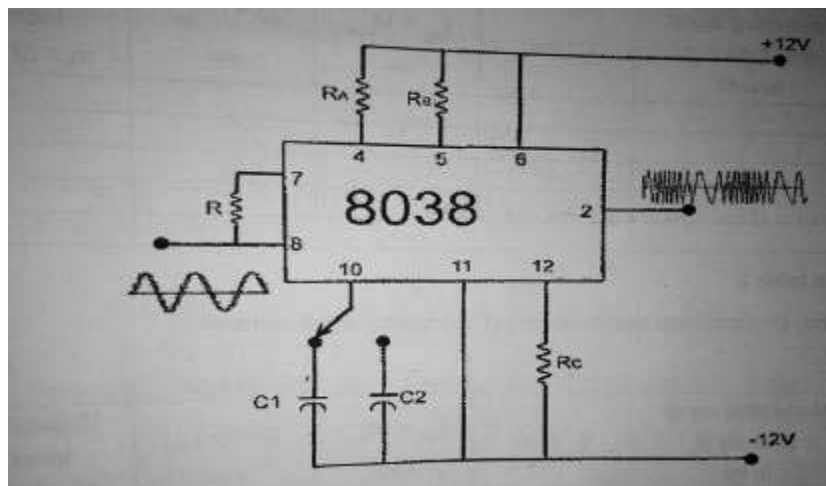
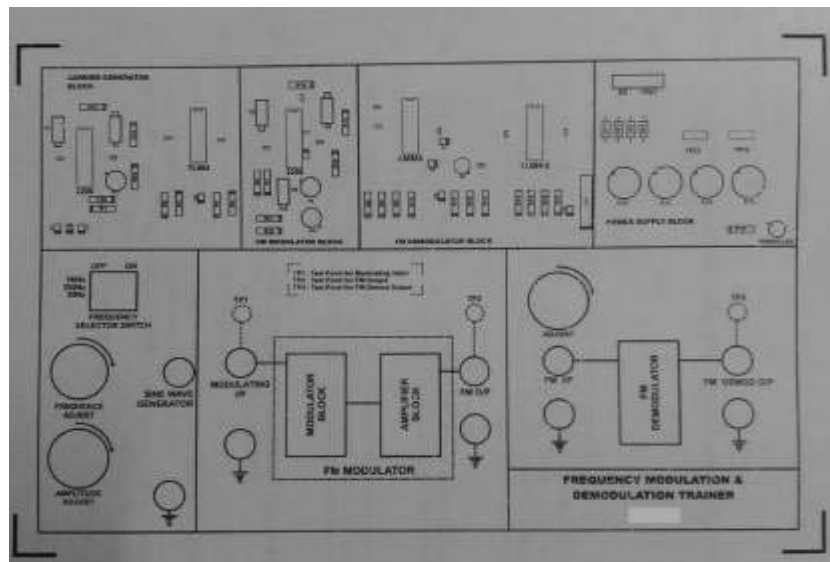
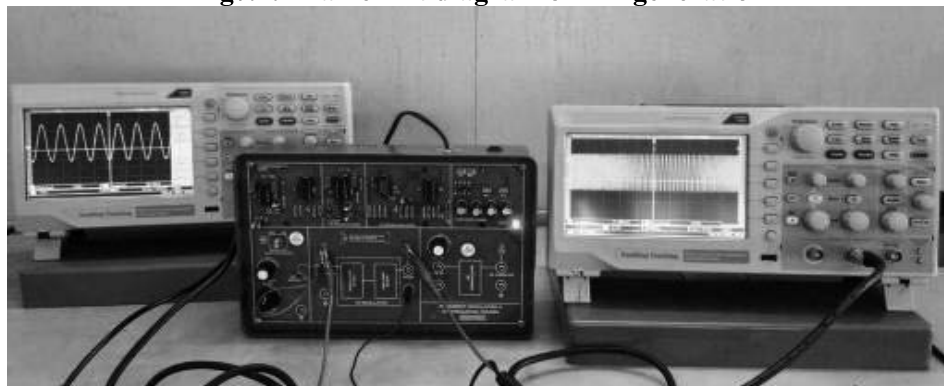
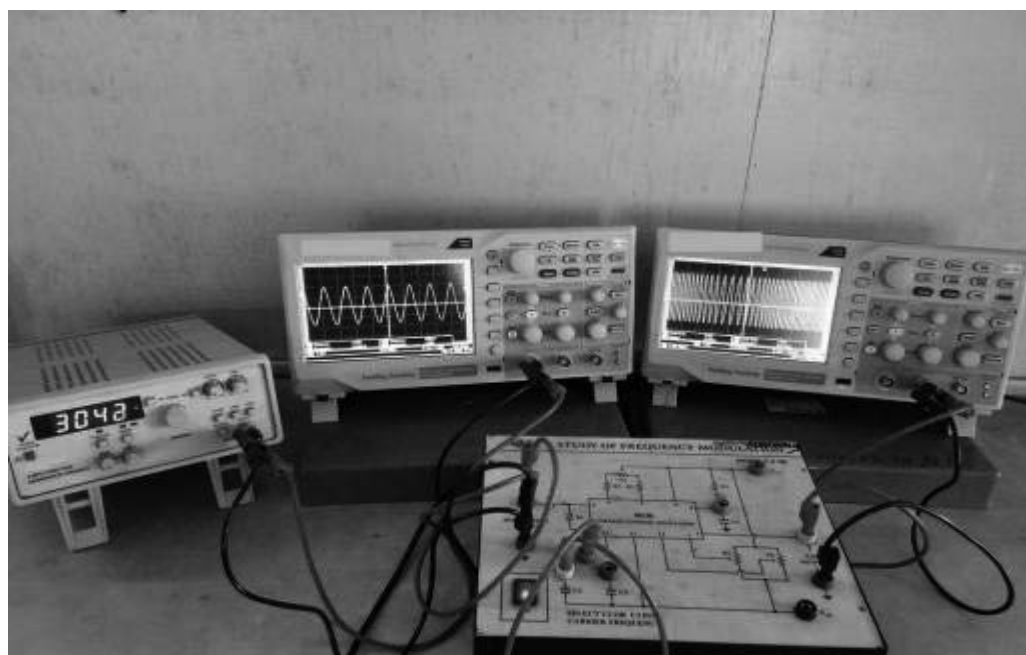

Fig 7.1: Circuit diagram of FM generation
Fig7.2: Trainer kit diagram of FM generation
Fig7.3: Experimental set up of FM generation using trainer kit
Fig7.4: Experimental set up of FM generation using IC 8038
FM -Modulator circuit using IC 8038 is shown in Fig 7.1 Same IC is used in trainer kit BCT- 02 as shown in Fig 7.2.
- a) Sample: Any relevant circuit (Fig 7.1)/Experimental trainer kit diagram (Fig 7.2)/Experimental set up (Fig 7.3, Fig 7.4)
1. Make connections as per the given practical set-up as shown in Fig7.3/ Fig 7.4.